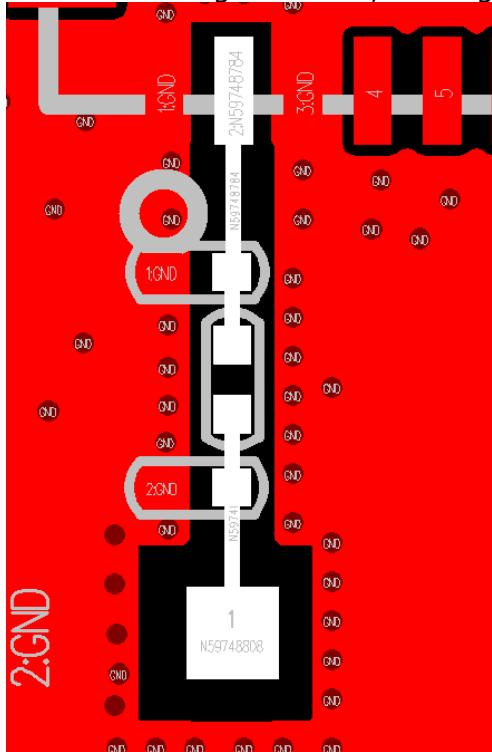
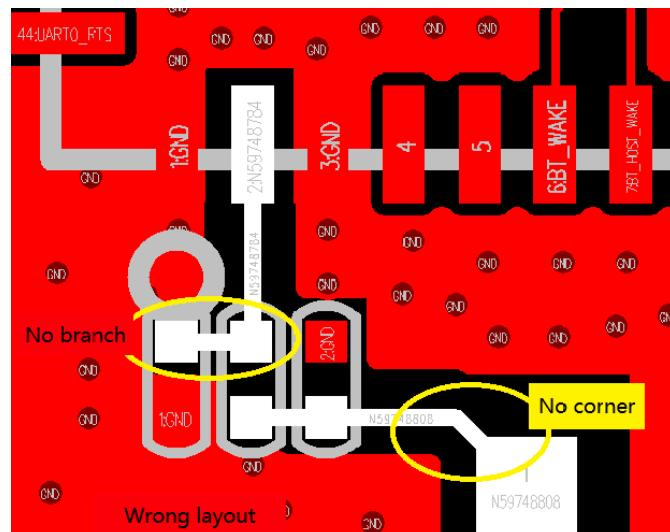
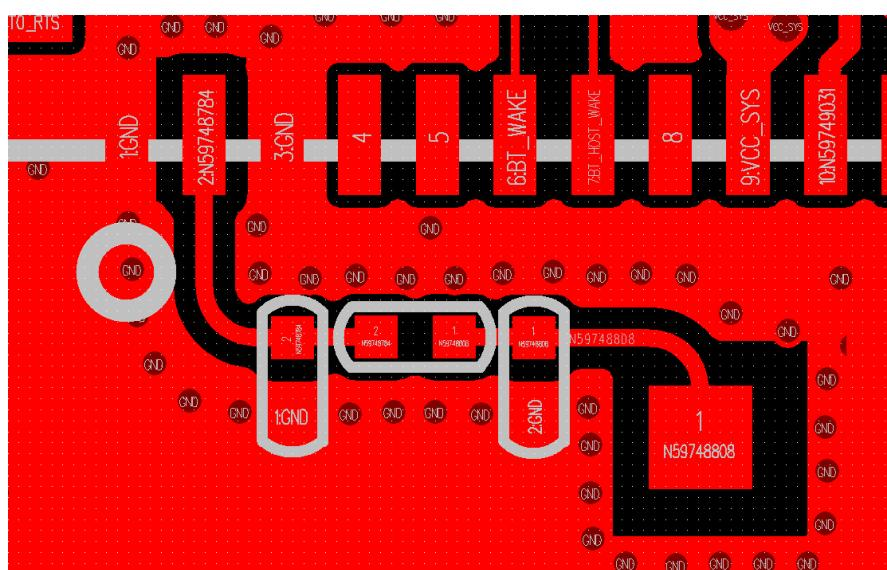

Figure 23-13
Figure 23-14
Figure 23-15
- The longer the antenna signal path is in layout, the larger the energy loss, so in design, the path of the antenna is as short as possible and cannot have branches and vias, shown as Figure 23-13, and Figure 23-14 is the wrong layout.
- When the antenna needs to swerve, please trace with arc but not at corner, shown as Figure 23-15, and Figure 23-14 is the wrong layout.